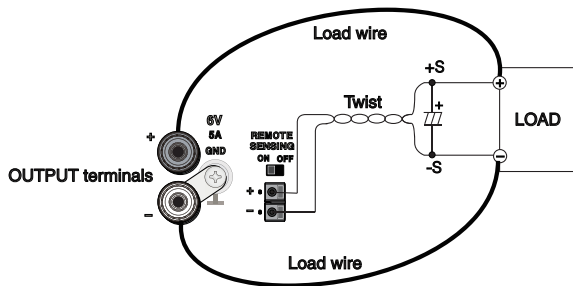

Fig. 4-6 Connection of the sensing wires
2. Connect the cables as shown in Fig. 4-6.